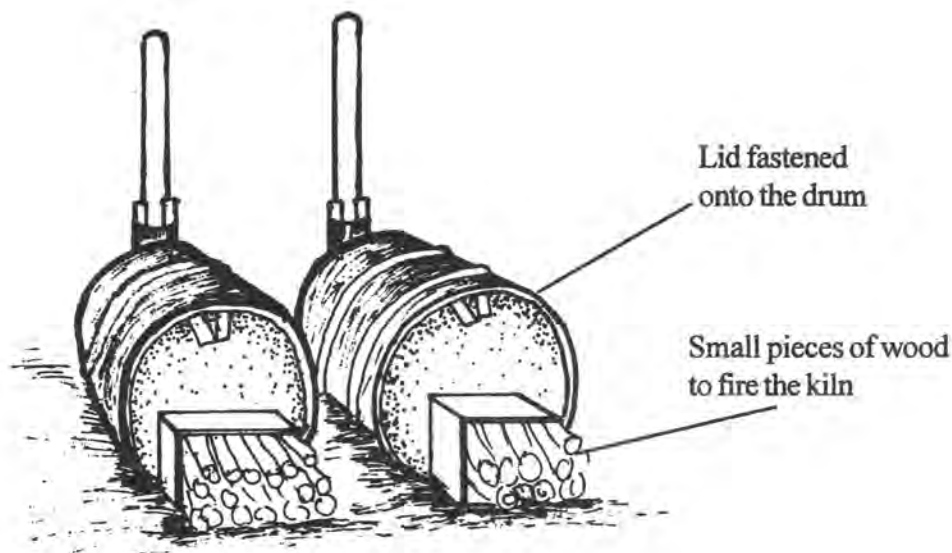

Figure 4.4: Small pieces of wood placed at the firing section
- Close the loaded drum with the lid that is fitted with a firing door and stack small pieces of wood at the firing section (Figure 4.4) and light the kiln.